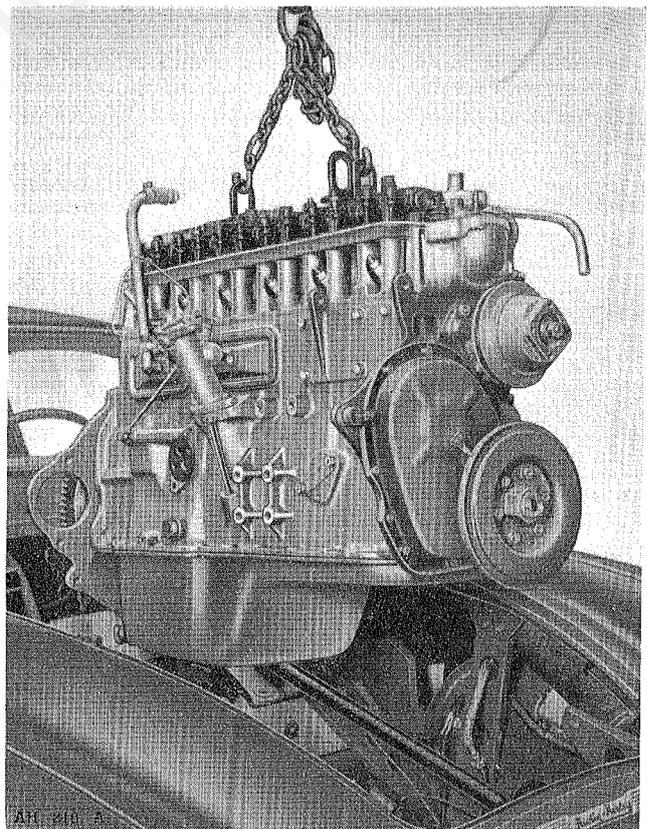

Fig. A.2. Showing the engine being removed at the correct lifting angle.
- (12) Release the oil pressure flexible pipe at its upper connection.
- (13) Remove the starter motor as described in Section N.
- (14) Withdraw the four setpins which secure each engine mounting bracket to the chassis frame. Detachment of the left-hand bracket is facilitated by a slit in the carburettor heat shield.
- (15) Unscrew the six brass nuts securing the exhaust down pipe to the exhaust manifolds, and pull the down pipe away from the manifold studs.
- (16) Remove the valve rocker as described in Section A.11 and secure two suitable lifting brackets.
- (17) By means of lifting tackle, similar to that illustrated in fig. A.2, support the engine so that the engine mounting brackets are just clear of their chassis mountings.
- (18) Unscrew the four setpins securing the right-hand engine mounting bracket to the cylinder block and withdraw the mounting.
- (19) Place a suitable support underneath the gearbox bell housing and unscrew the nuts, bolts and setpins securing the bell housing to the engine backplate.